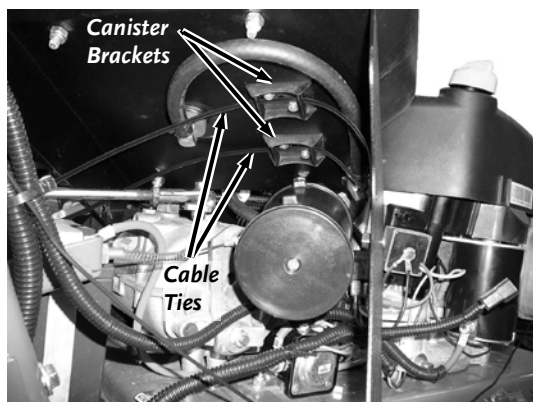

Figure 42
10. Slide the Cable Ties through the slots in the Canister Brackets under the Fuel Tank Mount (**Figure 42**).